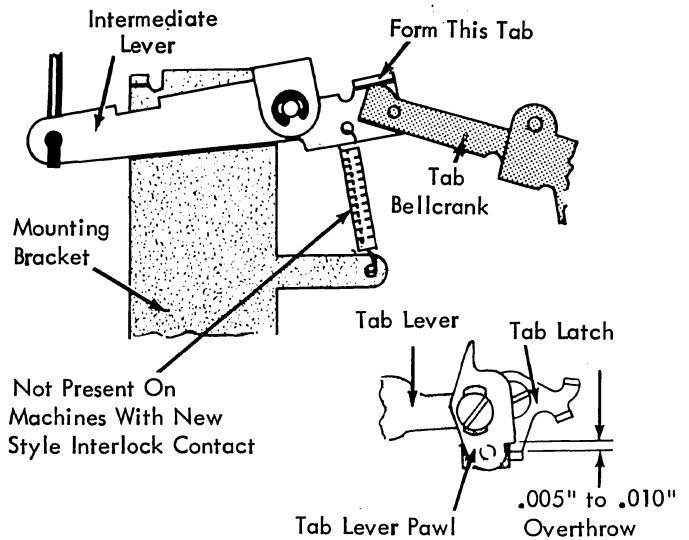

FIGURE 173.3. Intermediate Lever Tab
6. Intermediate Lever Tab (Fig. 173.3) - With the tab interposer released and the Tab/Sp/BS cam on its high point, form the intermediate lever tab so that the tab lever pawl overthrows the tab latch by .005" to .010".